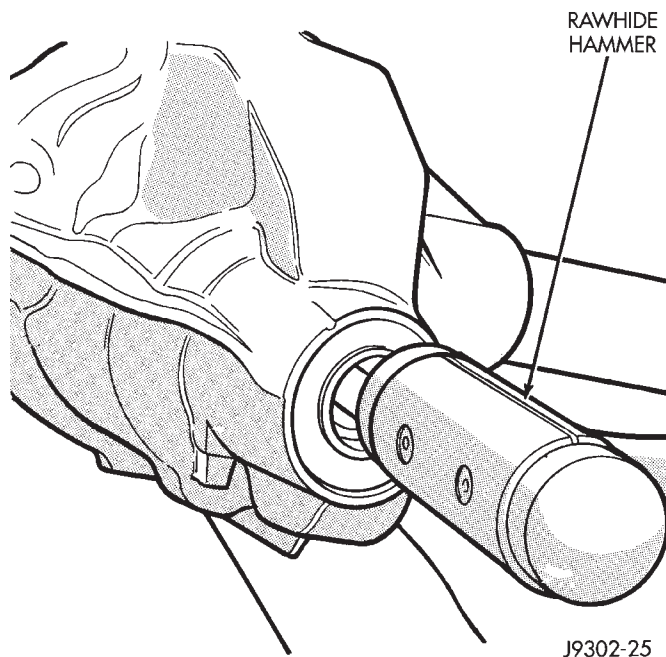

Fig. 38 Remove Pinion Gear
(6) Remove the pinion gear from housing (Fig. 38). Catch the pinion with your hand to prevent it from falling and being damaged.
(7) Remove the pinion seal with a slide hammer or pry out with bar.